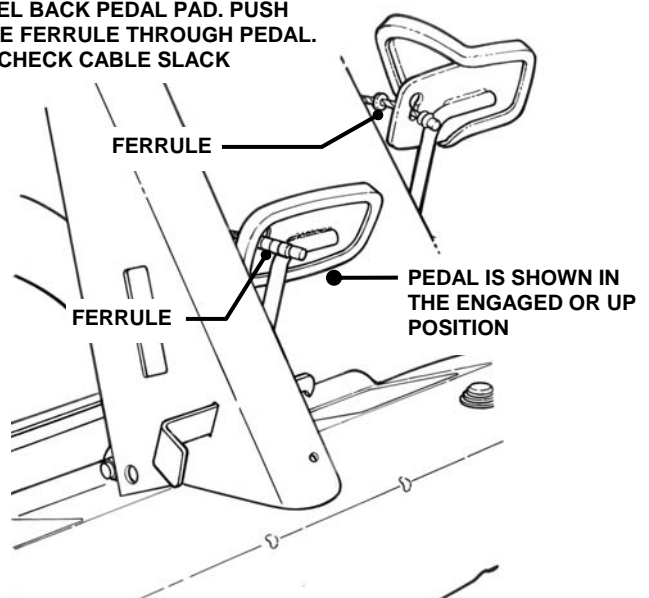

FIGURE 4.7
10. Disengage parking brake and allow pedal to remain in the engaged wheel drive (Up) position. See Figure 4.7.
12. Peel back the rubber clutch/brake pedal pad and push one ferrule through hole in pedal to attain slack in cable. See Figure 4.7. Recheck cable for the approximate 3/16" of slack. Replace pedal pad when adjustment is complete.